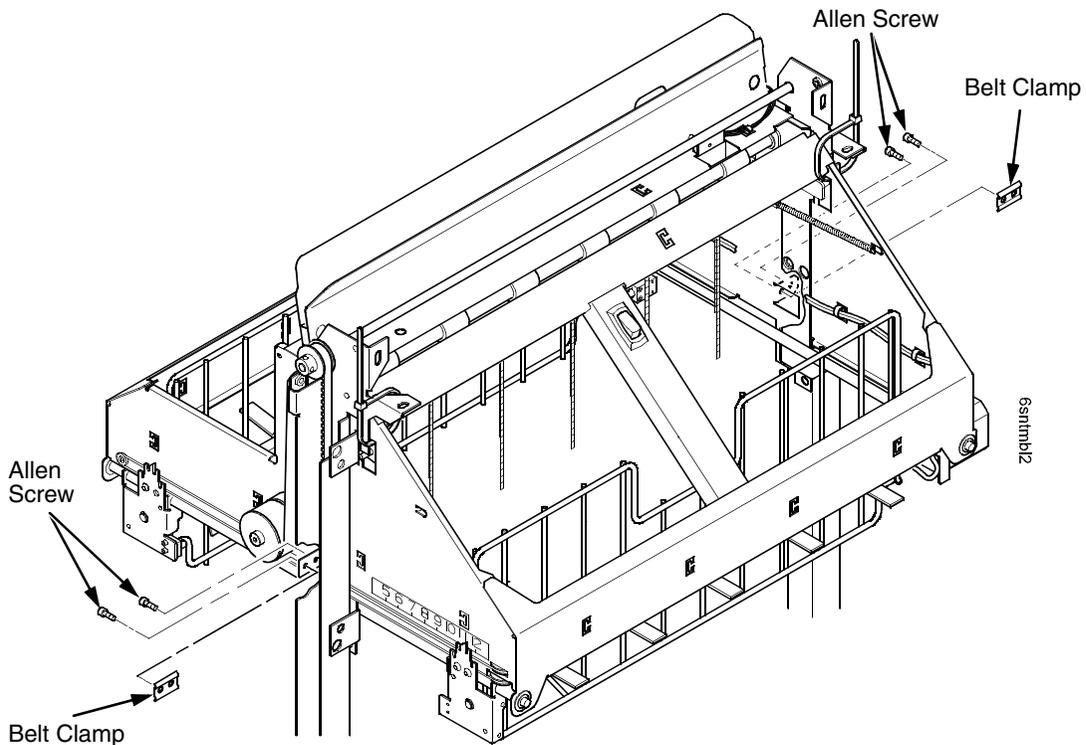

Figure 101. Removing the Belt Clamps
7. Remove two Allen screws from the belt clamp that secures the timing belt to the stacker frame. (Figure 101.)